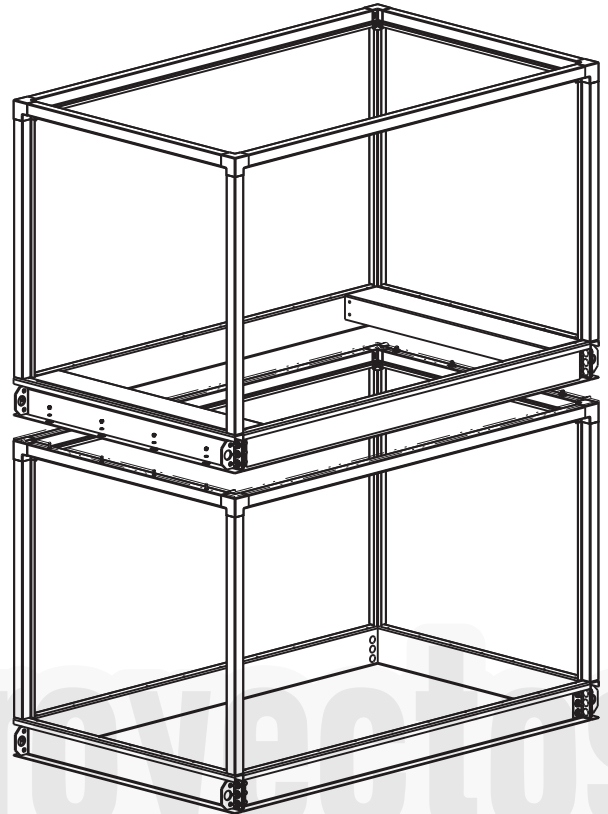

Fig. 41 — Positioning Fan Section on Top of Coil Section
NOTE: Size 21-61 vertical units that exceed the 108-in. maximum height or units with a vertical fan shipping split are shipped with the fan out of its operating position, separate from the vertical coil section. See Fig. 41.
1. Rig the fan section using the lifting brackets and place it on top of the coil section. See Fig. 41.